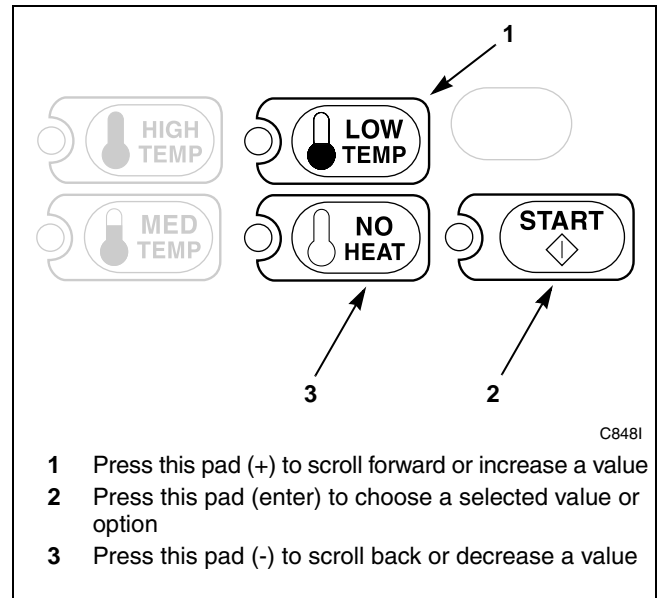

Figure 178
3. Press the LOW TEMP (+) or the NO HEAT (-) keypad to scroll through the programmable options until “+050” appears in the VFD. Refer to *Figure 178*.